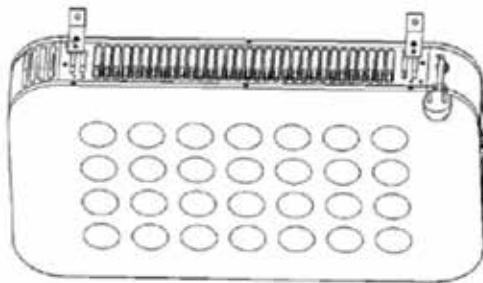

Fig. 6
7. Screw the spacers to the bottom section of the appliance (Fig. 6). Make sure the spacers are located on the same side as the cut-outs for suspending the appliance.